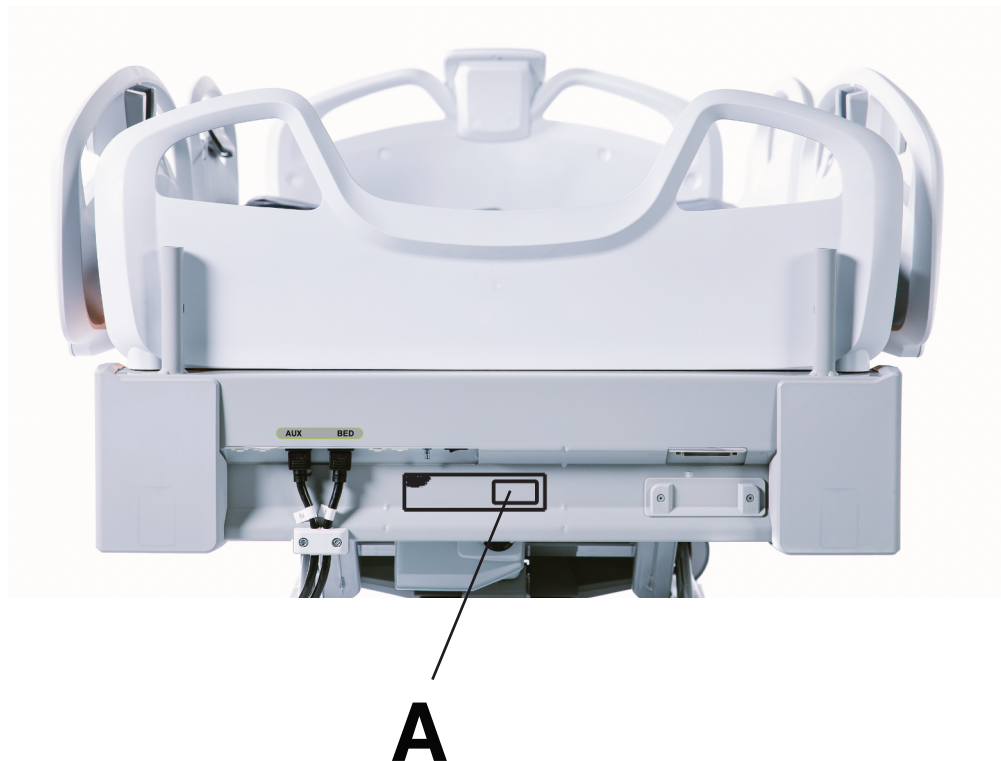

Figure 3 – Serial number location
You can find the serial number (A) below the headboard at the head of the bed (Figure 3).